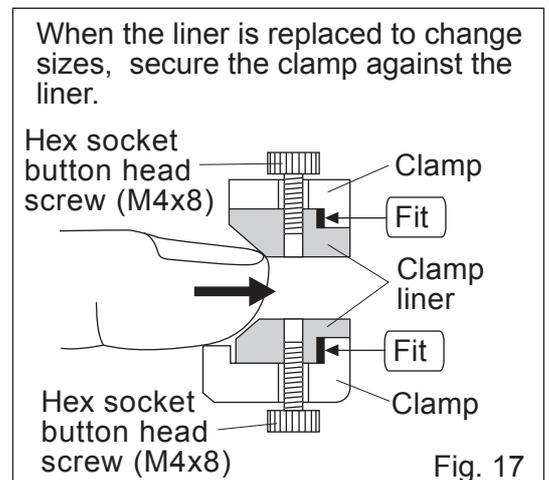

Fig. 17
4. When the liner is replaced to change sizes, be sure to fit the new liner properly in the clamp before securing it with the socket bolt. (Fig. 17)